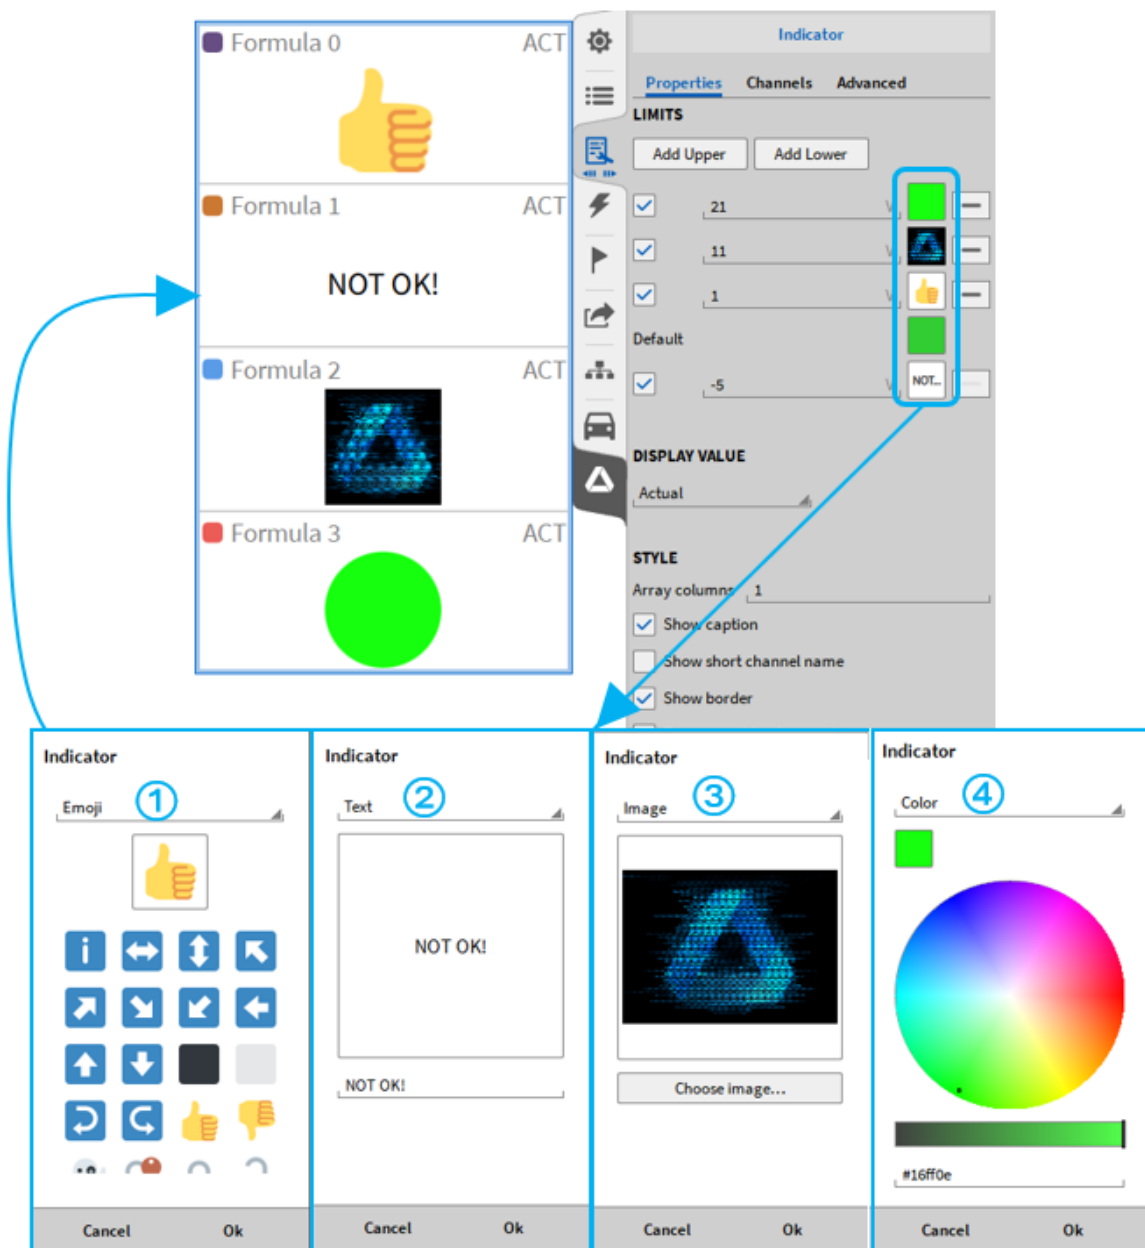

Fig. 8.14: Indicator – Limits
- **Limits:** The user can define upper and lower limit values as well as a default limit for the indicator between the lower and upper limits. For the visualization if a limit has been exceeded it is possible to use an emoji (see ① in Fig. 8.14), text (see ② in Fig. 8.14), image (see ③ in Fig. 8.14) or color (see ④ in Fig. 8.14).